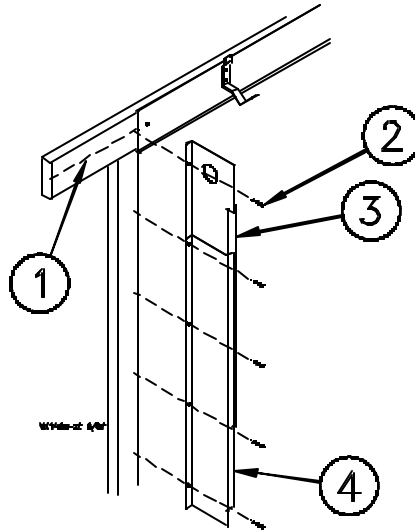

Figure 8. End Panel Installation
1. Locate the top mounting hole (in the flange of the Upper End Panels) on the chalk line. This will properly align the hole for the Distribution Pipe with the Pipe Hangers. See **Figure 8**. Secure the Upper End Panels to the top stringer using the 10-16x1-1/2" Screws, as shown in **Figure 8**.